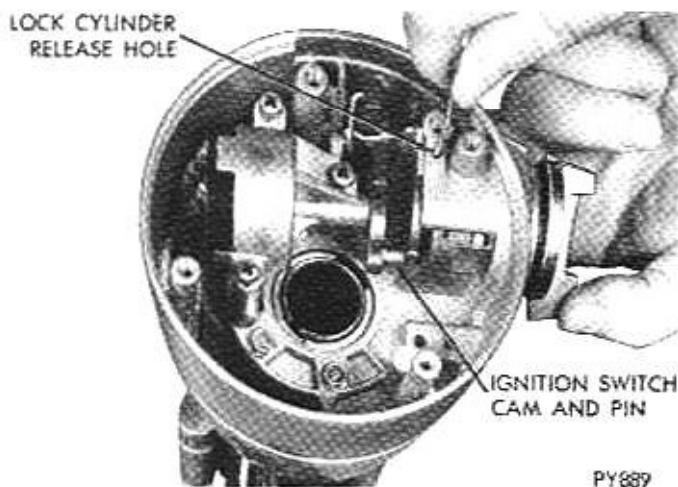

Fig. 12—Removing Lock Cylinder
(4) **Place cylinder in "lock" position and remove key.** Insert a small diameter screwdriver or similar tool into lock cylinder release hole and push in to release spring loaded lock retainer. At same time pull lock cylinder out of housing bore (Fig. 12).
- (5) Remove the three retaining screws and the ignition switch assembly (Fig. 12).
(10) Position ignition switch to center detent (OFF) position. Feed wires down through the space between housing and jacket. Position switch in housing and tighten three mounting screws (Fig. 12).